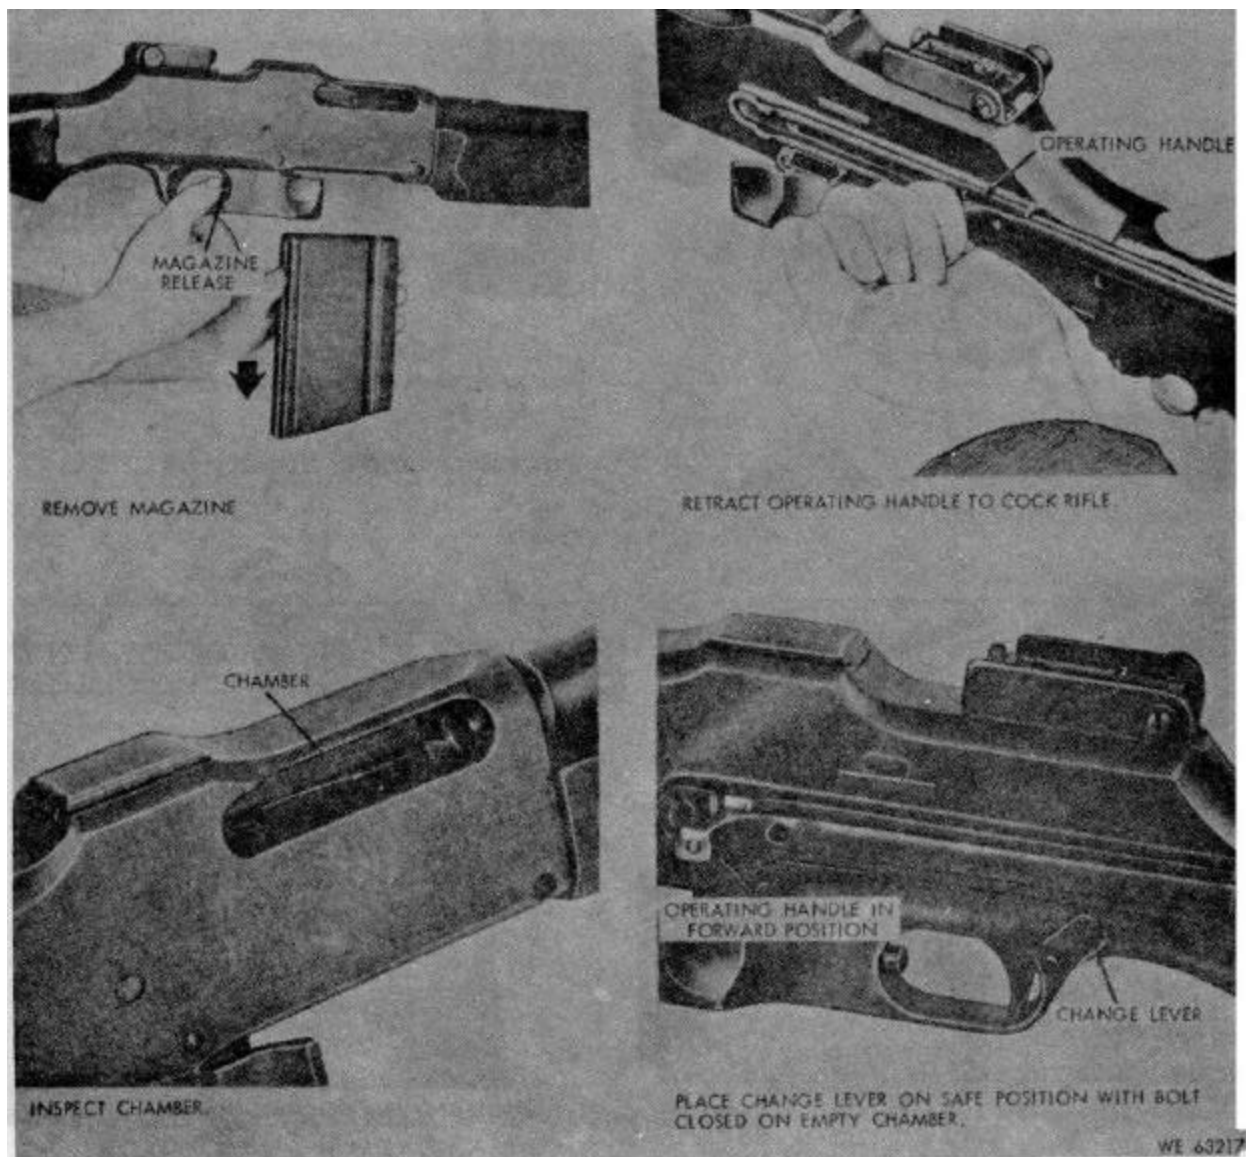

Figure 2-2. Clearing rifle.
- b. Clear rifle as shown in figure 2-2.
Refer to figure 2-2.
| 2    | Clear rifle.  | Fig 2-2                         |